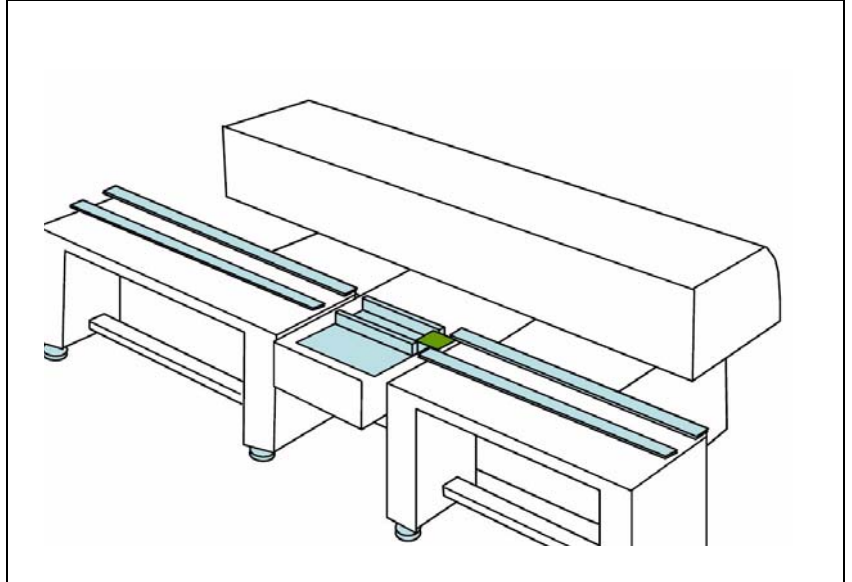

Figure 2-38. Lock the T conveyor in its desired fetch-and-leave position
1. When the downstream alignment is near finished, place a board between the upstream conveyor and the T conveyor and tighten both rails. This locks the T conveyor into its desired fetch-and-leave position. See Figure 2-38 for details.